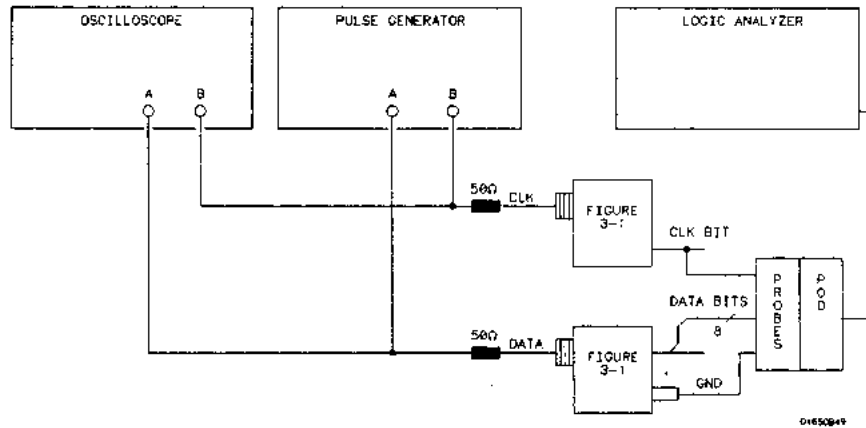

Figure 3-3. Setup for Data Test 1
1. Connect the HP 1652B/1653B and test equipment as in figure 3-3.